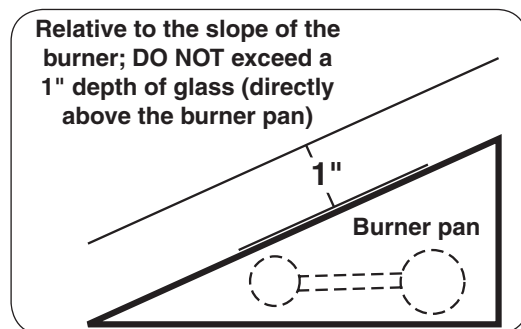

Fig. 9-4
1. Pour the glass / gems directly on top of the granules and screen so that the burner pan is covered completely and evenly. Relative to the slope of the burner; DO NOT exceed a 1" depth of glass (directly above the burner pan) as shown in Fig. 9-4. DO NOT place glass directly under the pilot. See Fig. 9-5 and Fig. 9-6.